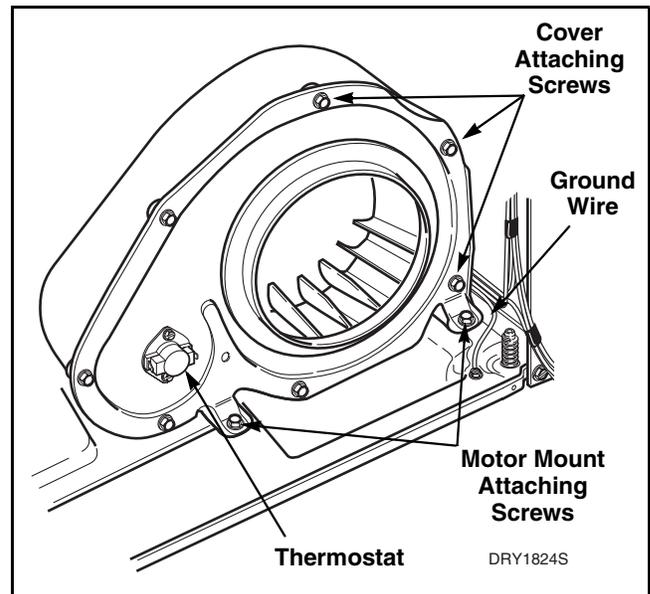
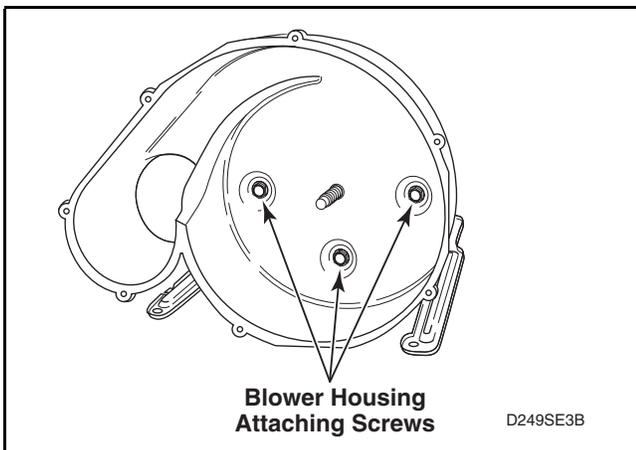

Figure 24
Figure 27
- e. Remove screw holding ground wire to dryer base. Refer to *Figure 24*.
- Remove two screws holding motor mounting bracket to dryer base. Refer to *Figure 24*.
- (1) Remove screws holding cover to housing. Refer to *Figure 24*.
- (2) Hold motor pulley securely and unthread blower fan from motor shaft (right hand thread). Use a 7/8 inch, 6 point socket to aid in the removal of the blower fan.
- (3) Remove three screws holding the blower housing to the motor mounting bracket. Refer to *Figure 27*.